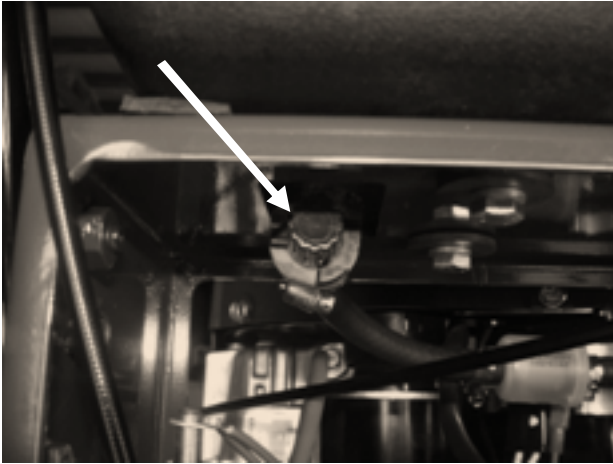

Figure 77
5. Turn gas tank valve to Off position **Figure 77.**